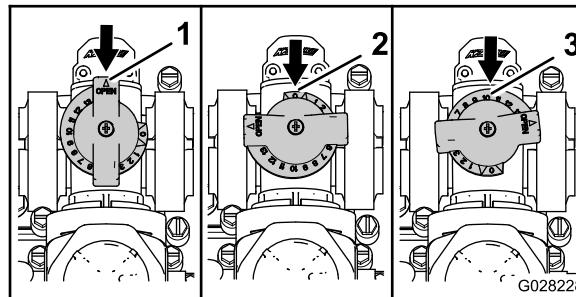

Figure 48
- The agitation-bypass valve is in the full OPEN position as shown in A of Figure 48.
- The agitation-bypass valve is in the CLOSED (0) position as shown in B of Figure 48.
- The agitation-bypass valve is in an INTERMEDIATE (ADJUSTED RELATIVE TO THE PRESSURE GAUGE FOR THE SPRAYER SYSTEM) position as shown in C of Figure 48.